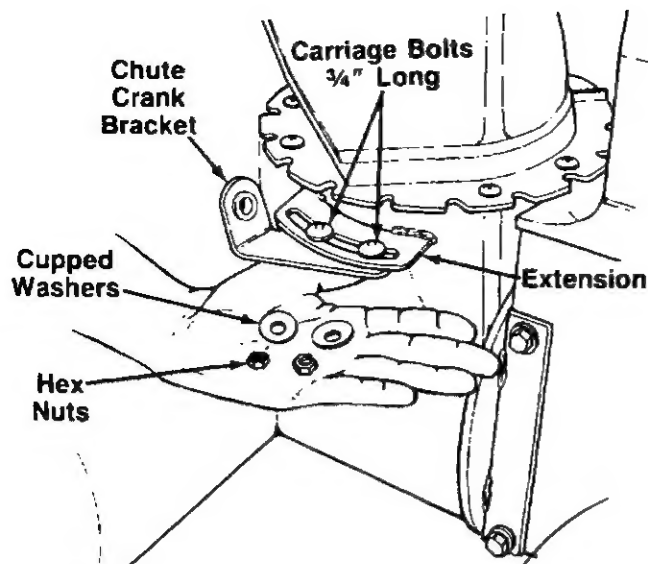

FIGURE 4.
5. Attach chute crank bracket to the extension on the left side of the chute opening (bracket goes beneath the extension) as shown in figure 4. Secure with two $\frac{3}{4}$ " long carriage bolts, $\frac{5}{16}$ " cupped washers (cupped side of washers go against the chute bracket) and hex nuts. Do not tighten at this time.